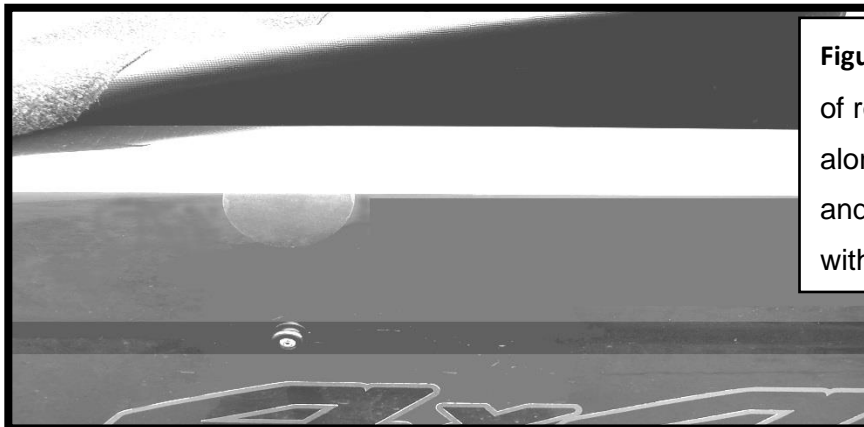

Figure 3: Placement of rope button is along panel crease and vertically inline with each ring grip.
8. To fit the rope buttons to tub, use the panel crease in both the tailgate and side panels as a reference line, **See Figure 3**. Starting with the **tailgate**, line up vertically each button to each ring grip and drill and rivet each button to the crease, so that the top edge of the button is in line with the top edge of the crease. For the **side panels**, follow the same procedure as with the tailgate, drill and rivet buttons alternating from one side to other side of the tub.